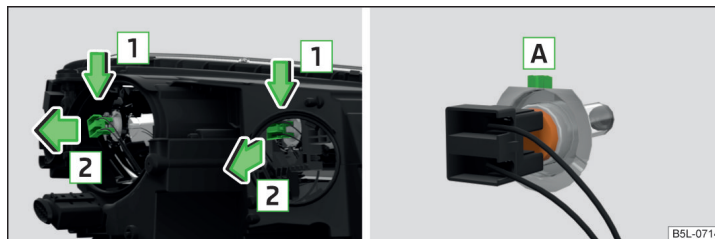

Fig. 206 Replacing the bulb for low beam and main beam
- Disconnect the relevant connector with the light bulb in the direction of arrow **1** » Fig. 206.